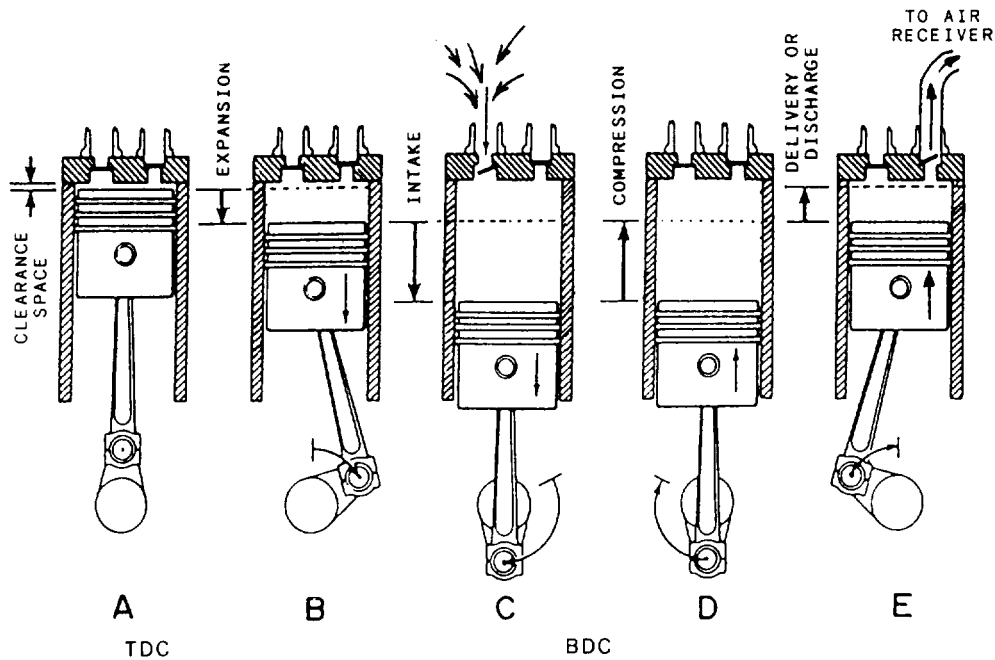

Figure 8-2.—Compression cycle in a reciprocating air compressor.
2. Using Figure 8-2. —Compression cycle in a reciprocating air compressor, which of the following letters corresponds to the intake stroke of a reciprocating air compressor?
The cylinder block of the reciprocating compressor is designed much like that of an internal combustion engine found in most automobiles. The similarity ends at the cylinder head that is constructed specifically for air compression purposes. Figure 8-2 shows the basic movement of air through the reciprocating unit. As the piston moves down, air is drawn into the cylinder through a one-way intake valve. Once the piston reverses direction and begins upward motion, the intake valve is forced closed, and the compression of air forces the discharge valve open, passing the air out of the cylinder and into the air receiver. The most common intake and discharge valves are simple spring-loaded devices, varying in design and size according to the size of the air compressor. The reciprocating compressor is most likely to be found at public works stations, in a shop supplying air for industrial use, or under the hood of CESE with air actuated brakes